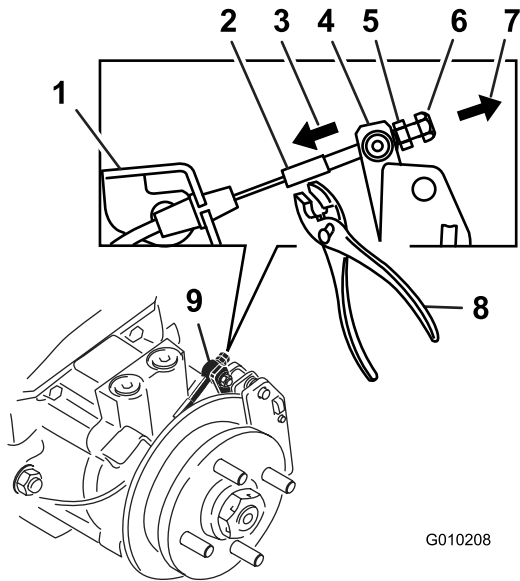

Figure 68
9. Using hands and fingers only, push the caliper lever arm to engage the brake pads on the rotor until the lever stops (Figure 68).
10. While holding the lever at the stopped position, use the other hand or fingers to pull the cable threaded end tight through the swivel. Spin the standard nut against the swivel (Figure 68).